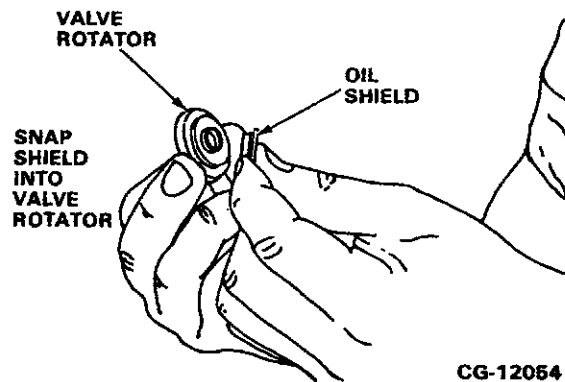

Figure 4.60. Assemble Rotator and Oil Shield
4. Snap the nylon oil shield into the valve rotator as shown in Figure 4.60.
THE SHIELD MUST BE SNAPPED INTO THE ROTATOR (FIGURE 4.60). IF NOT PROPERLY INSTALLED, EXCESSIVE LUBE OIL CONSUMPTION COULD OCCUR.